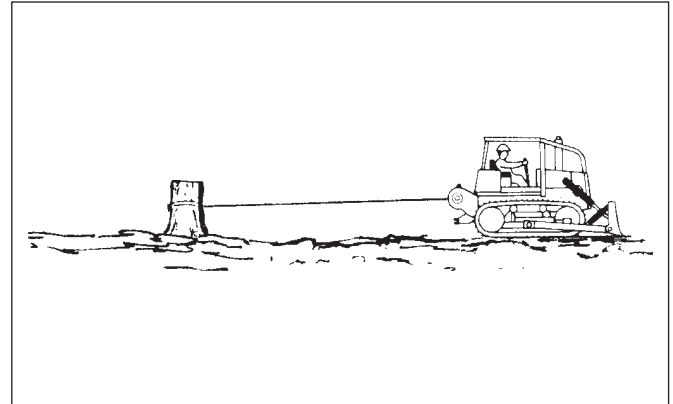

Figure 17 - Moving a Disabled Vehicle (Step A)
**A.** A tractor or skidder often travels in areas where traction conditions are bad. A vehicle equipped with a winch can be used to remove itself from mud or other areas where it cannot move using only the drive wheels or tracks. See Figure 17. Use the following procedure: